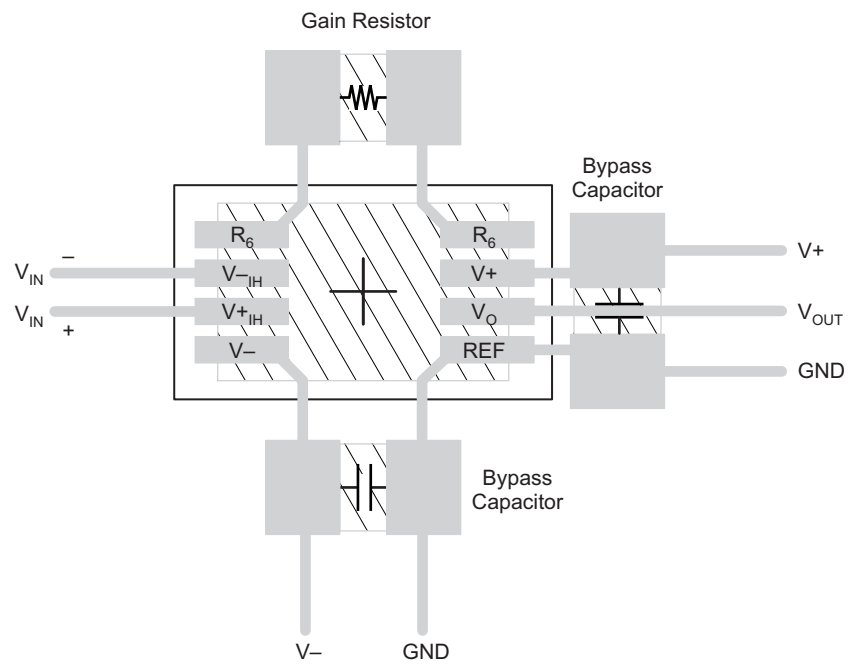

Figure 57. PCB Layout Example
- Place the external components as close to the device as possible. As illustrated in Figure 57, keeping  $R_G$  close to the pins minimizes parasitic capacitance.